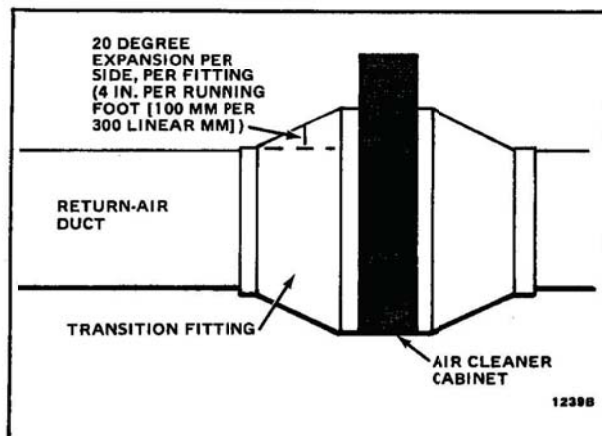

FIG. 12—WHEN NECESSARY, USE GRADUAL TRANSITIONS IN DUCT SIZE TO PREVENT EXCESSIVE TURBULENCE.
1. Gradual transitions are recommended to reduce air turbulence through cleaner and to increase efficiency (Fig. 12).